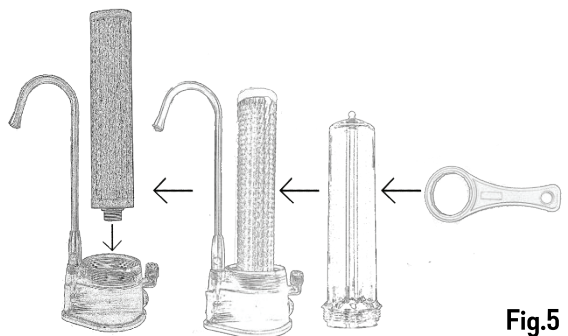

Fig.5
6. Screw the cartridge (Disruptor/Ceramic) back to the "Cavity". (Fig. 5) Screw back the filter housing to the base member and tighten it to prevent water from leaking out of the housing.